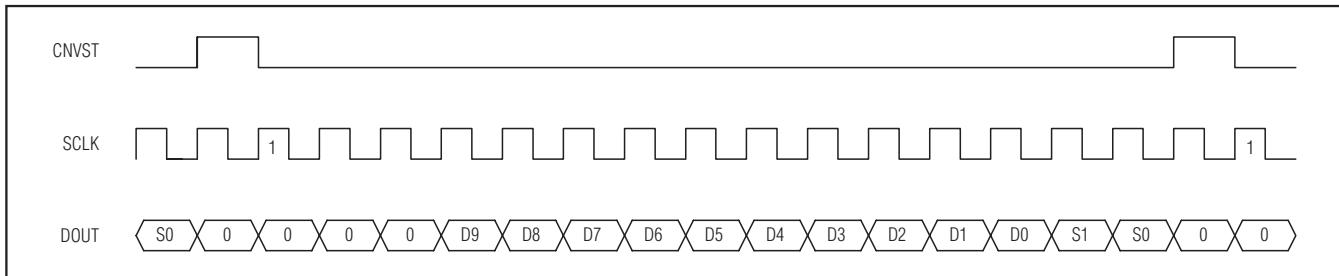

Figure 17. DSP Interface—Continuous Conversion
The MAX1077/MAX1079 can also be connected to the TMS320C54_ by using the data transmit (DX) pin to drive CNVST and the CLKX generated internally to drive SCLK. A pullup resistor is required on the CNVST signal to keep it high when DX goes high impedance and 0001hex should be written to the DXR continuously for continuous conversions. The power-down modes can be entered by writing 00FFhex to the DXR (see Figures 17 and 18).
transmit-data register more than once. For single conversions, idle CNVST high and pulse it low for the entire conversion. The ADSP21 STCTL and SRCTL registers should be configured for late framing (LAFR = 1) and for an active-low frame (LTFS = 1, LRFS = 1) signal. This is also the best way to enter the power-down modes by setting the word length to 8 bits (SLEN = 1001). Connect the VL pin to the ADSP21 supply voltage when the MAX1077/MAX1079 are operating with a supply voltage higher than the DSP supply voltage (see Figures 17 and 18).